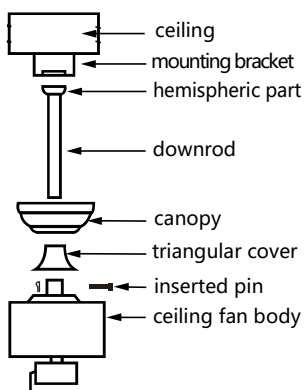

Figure 3
1. The downrod needs to pass through the canopy and the triangular cover. Insert the downrod into the hemispheric part and align the holes, then insert the inserted pin. Plug the R shaped iron inserted pin into the hole of the inserted pin, fasten the screws on the side of the hemispheric part (See Figure 3).